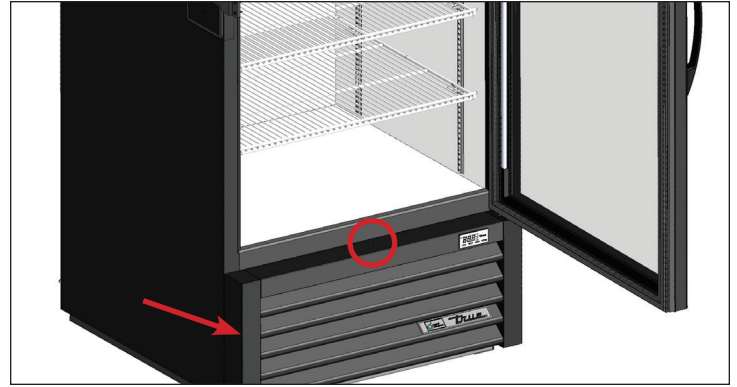

Fig. 1. Front louver grill screw location.
1. Remove the front louver grill. See fig. 1.